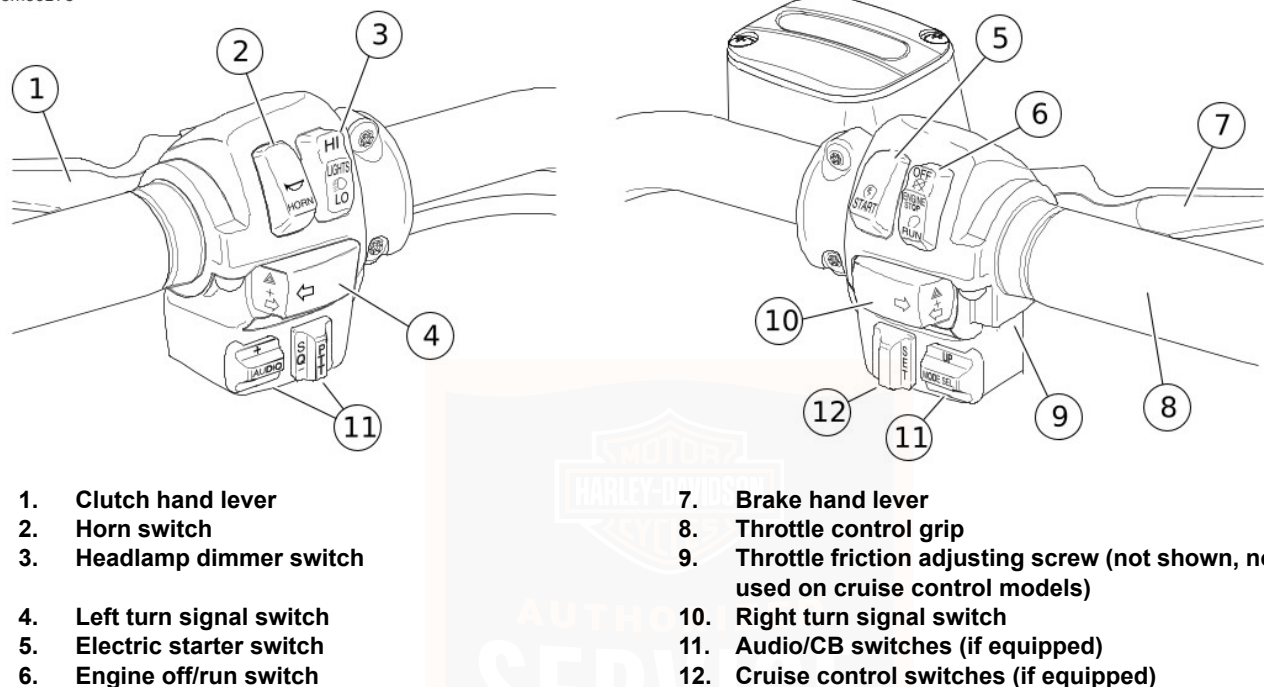

Figure 6. Basic Handlebar Controls (typical)
See Figure 6. The electric starter switch is located on the right handlebar control group. See OPERATION > STARTING THE ENGINE (Page 132) for detailed operation procedures.
See Figure 6. The engine off/run switch (6) turns the ignition power ON or OFF. The engine off/run switch is located on the right handlebar control. Push the top portion of the engine off/run switch to turn off ignition power and shut the engine off. Push the bottom portion of the engine off/run switch to turn on ignition power.
See Figure 6. The throttle control grip (8) is located on the right handlebar control and is operated with the right hand.
See Figure 6. The clutch hand lever (1) is located on the left handlebar and is operated with the fingers of the left hand.
See Figure 6. The horn is operated by pushing on the horn switch (2) located on the left handlebar control group.
See Figure 6. The headlamp dimmer switch (3) is located on the left handlebar. The switch has two positions to activate the headlamps high or low beams.
See Figure 6. Each handlebar control group contains a turn signal switch.